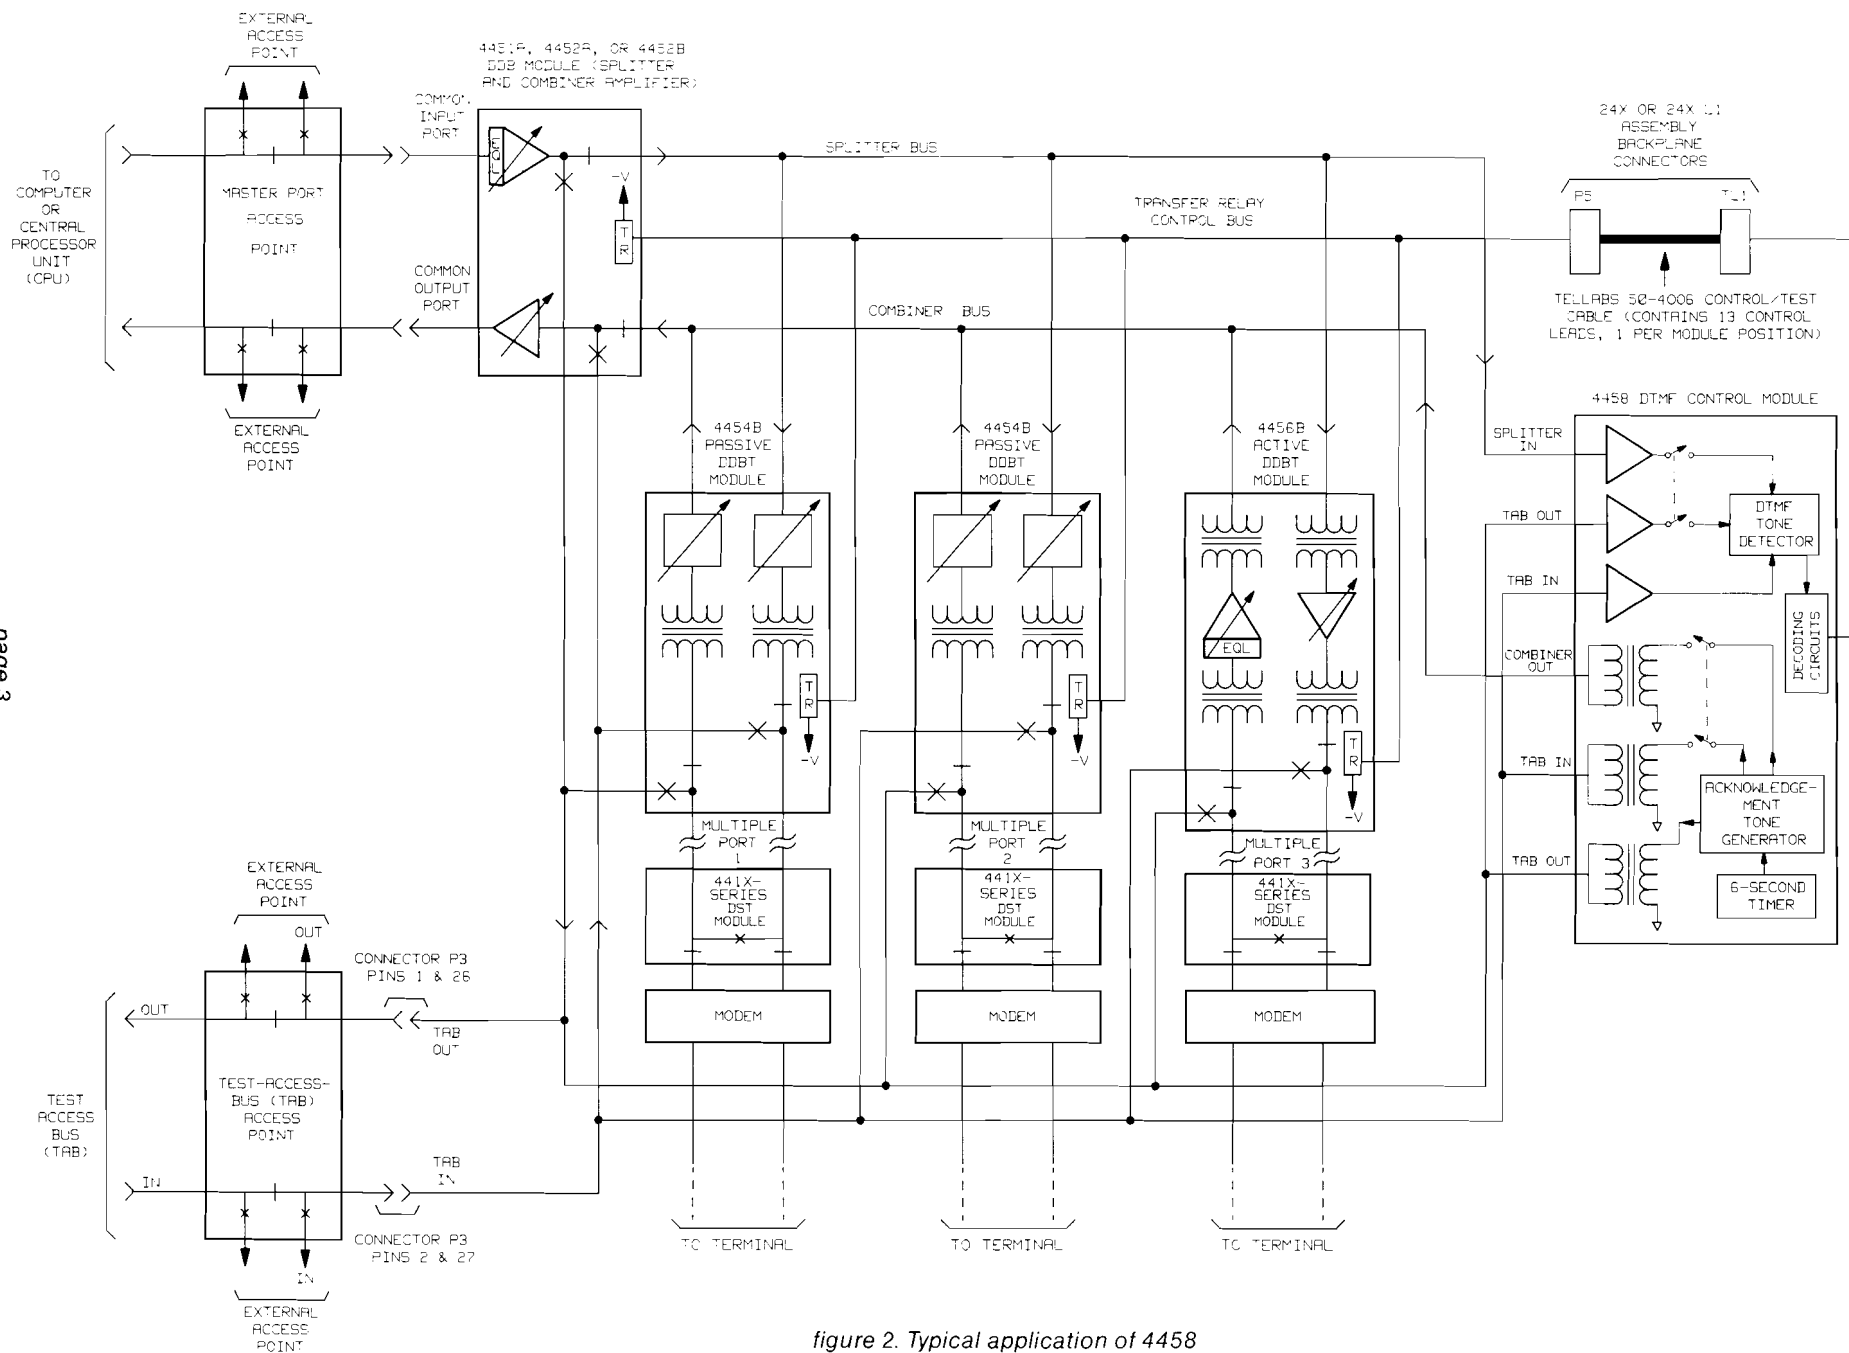

figure 2. Typical application of 4458
1.08 Activating the transfer relay on a **445XA** common-port or multiple-port module **disconnects the module** from the bridge network's splitter and combiner busses and connects it to an independent test access bus (TAB) that, like the splitter and combiner busses, is present on the printed-circuit backplane of the Issue 2 24X or 24X L1 Assembly. Activating the transfer relay on a **445XB** common-port or multiple-port module, in contrast, **disconnects the associated facility** from the bridge and connects the facility to the TAB. In either case, with a module's transfer relay activated, 2713Hz loopback-activation tone may be transmitted to verify proper operation of appropriate equipment, e.g., a Tellabs data station termination (DST) module or system, at the distant end of the associated bridge leg. Figure 2 shows a typical application. After the remote DST unit is in loopback, various test-tone frequencies (i.e., 404, 1004, and 3004Hz) may be transmitted over the TAB to determine the transmission characteristics of the 4wire facility.